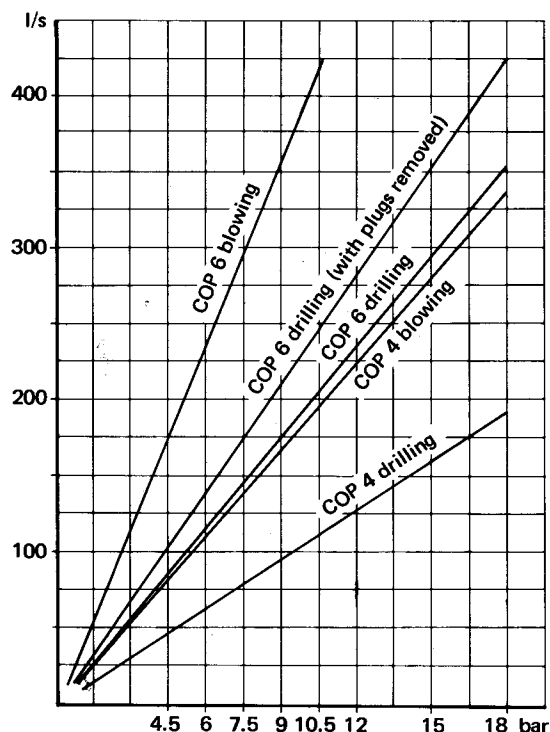

Fig. 2. Air consumption of COP 4 and COP 6 down-the-hole drills during drilling and when blowing clean the drill hole
Example 1: Determine the flushing air velocity with a bit diameter of 115 mm (COP 4) and drill tube diameter of 76 mm with an air consumption of 110 and 200 l/s (drilling and blowing at 10.5 bar, respectively, compare the air consumption diagram, Fig. 2).
1. Air consumption of the down-the-hole drill during drilling (fig. 2)
2. Capacity for blowing clean the drill hole (Fig. 2)